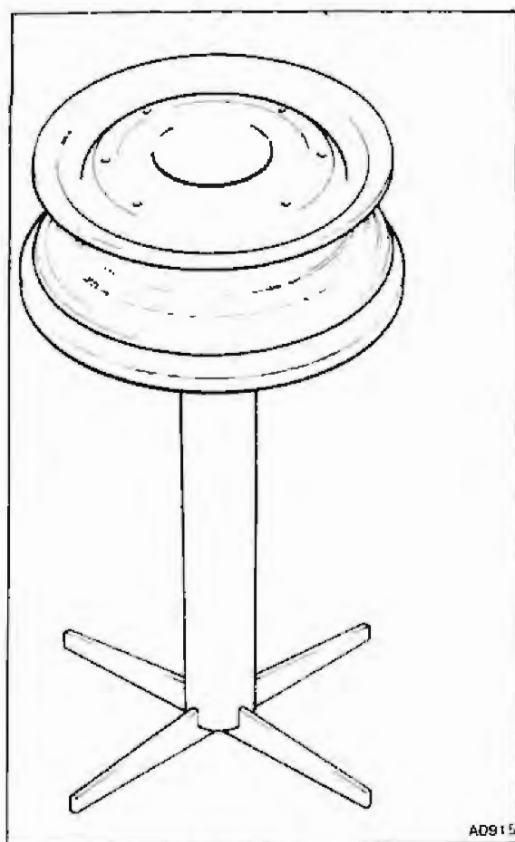

Fig. 3 Turntable
- 1 Turntable - similar to the one shown in figure 3 or any other alternative method of holding the wheel painted ring central to the top of the turntable by the fixing pegs situated on the back of the wheel painted rings.